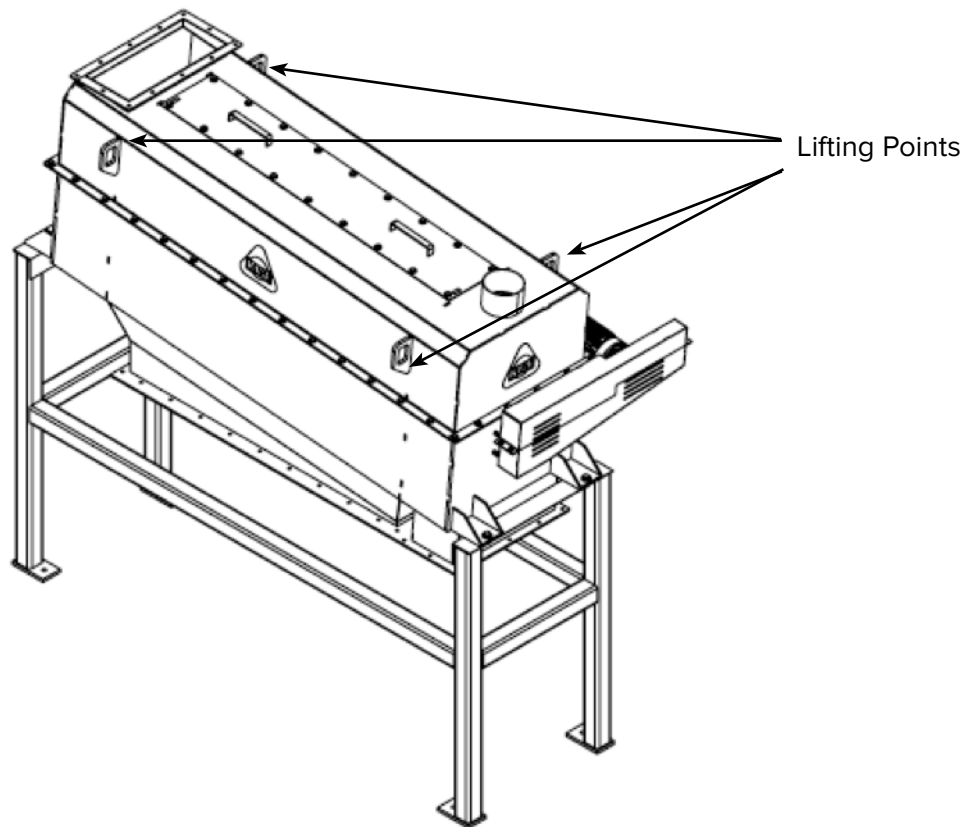

Figure 2 Lifting Points
2. Move the Kice Reel Eliminator to the installation area using proper equipment, tool truck or fork lift with the proper lifting capacity. The Reel Eliminator has four attachment points (lifting lug brackets) where equipment that is necessary for lifting the device, such as hoists, ropes, shackles, or clevises can be attached. All attachment points need to be used during lifting. Using lifting points other than those specified, and/or using equipment with insufficient capacity may compromise human safety as well as the structural integrity of the machine itself (see Figure 2).